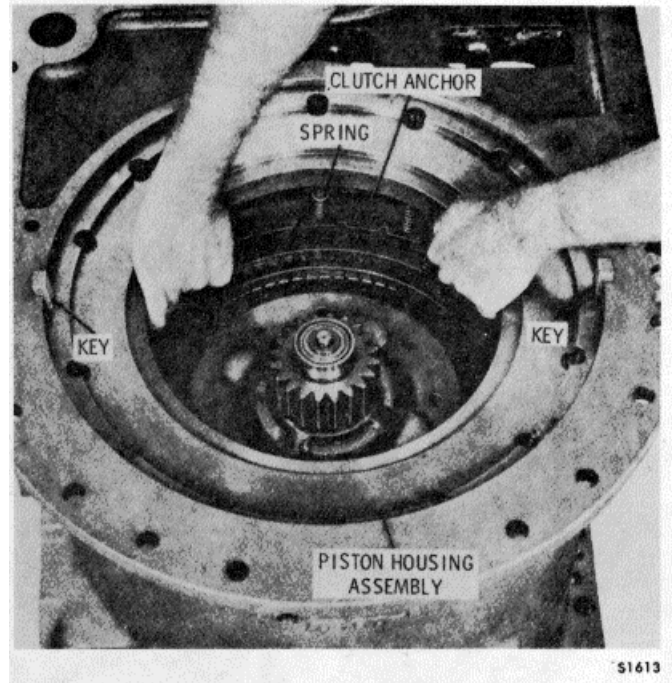

Figure 15-74. Removing Third-and-Fourth-Gear Clutch Piston Housing and Piston
8. Remove the third-and-fourth-gear clutch piston and piston housing assembly (Figure 15-74) and two anchor keys. Remove piston 22 (B, Foldout 10) from housing assembly 24. Remove seal rings 21 and 23. Remove pins 26 from housing only if replacement is necessary. Remove fourteen third-and-fourth-gear piston return springs. Remove the third-and-fourth-gear clutch anchor.